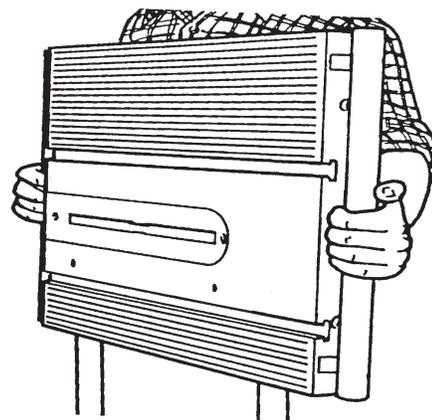

Figure C-80
**d. To dismount the worktable,** raise the table above the blade and slide the carriage to the right. Tilt the table 90° left and lock. Loosen the table height lock and pull the table straight up. See Figure C-80.